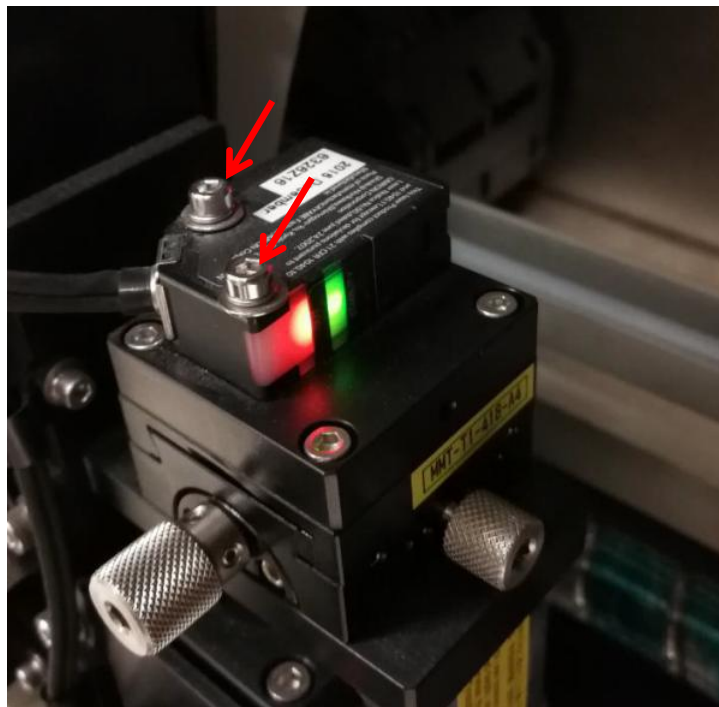

Figure 2
4. Loosen 2 x Screws and remove particular filter height sensor head as Figure 2.